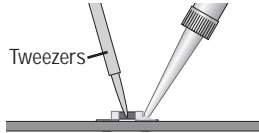

Figure 1.4.
2. Grasp the component in the middle with tweezers. Melt the small mound of solder with the iron and place the component across the two pads (in the correct orientation, if the component is sensitive to direction) and press it flat against the circuit board, with one end of the component immersed in the melted solder (Figure 1.4).